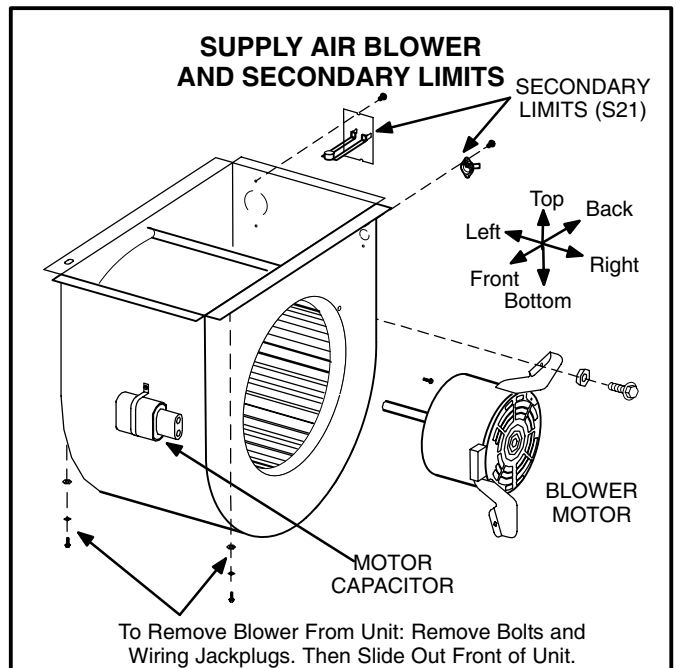
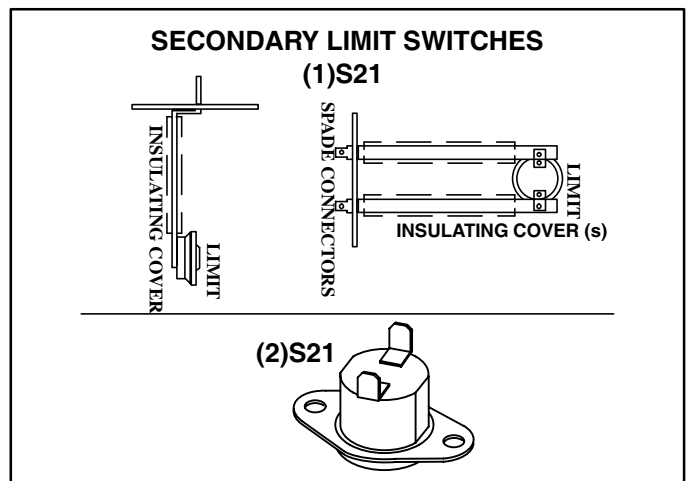
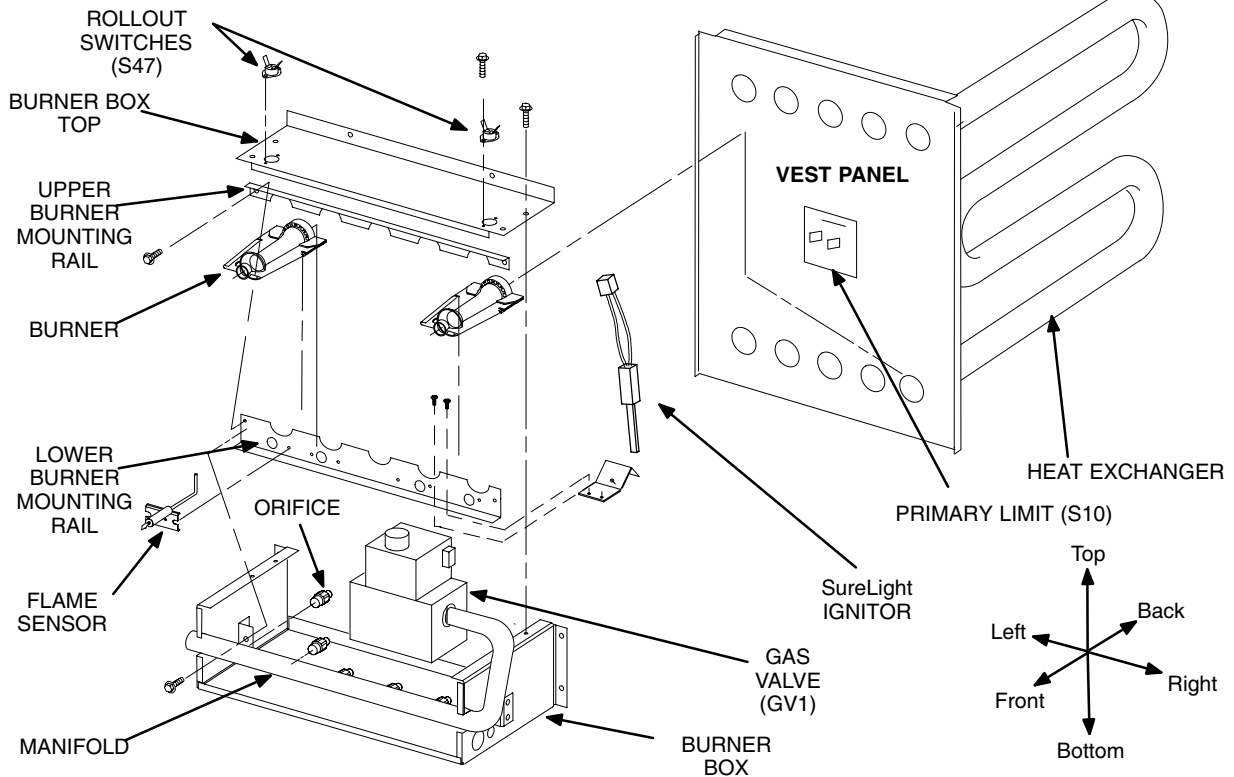

FIGURE 6
FIGURE 7
FIGURE 9
The secondary limit switches [(1)S21 and (2)S21] on G27M units are located in the blower compartment on the back side of the blower housing (see figure 6). When excess heat is sensed in the blower compartment, the limit will open. If the limit is tripped, the SureLight control energizes the supply air blower and closes the gas valve. The limit automatically resets when unit temperature returns to normal. Two limits are supplied in each furnace. Figure 7 shows both switches. Both switches are N.C. SPST auto-reset switches which actuate on a temperature rise. The switches are factory set and cannot be adjusted. The (1)S21 limit shown on the top opens at $140^{\circ}\text{F} \pm 5^{\circ}\text{F}$ ($60.0^{\circ}\text{C} \pm 2.8^{\circ}\text{C}$) on a temperature rise and closes at $110^{\circ}\text{F} \pm 10^{\circ}\text{F}$ ($43.3^{\circ}\text{C} \pm 5.6^{\circ}\text{C}$). The (2)S21 limit shown on the bottom opens at $165^{\circ}\text{F} \pm 5^{\circ}\text{F}$ ($73.9^{\circ}\text{C} \pm 2.8^{\circ}\text{C}$) on a temperature rise and closes at $135^{\circ}\text{F} \pm 8^{\circ}\text{F}$ ($57.2^{\circ}\text{C} \pm 4.4^{\circ}\text{C}$).
The primary limit (S10) is located in the middle of the heating vestibule panel (see figure 9). S10 is the same type of limit as (1) S21 or (2) S21 as shown in figure 7. G27M-60 and -75 units use the same type limit as (1) S21. G27M-100 and -120 units use the same type limit as (2) S21. When excess heat is sensed in the heat exchanger, the limit will open. If the limit is tripped, the SureLight control energizes the supply air blower and closes the gas valve. The limit automatically resets when unit temperature returns to normal. The switch is factory set and cannot be adjusted. The switch has different setpoints for each unit model number. However, the set point will be printed on the side of the limit.